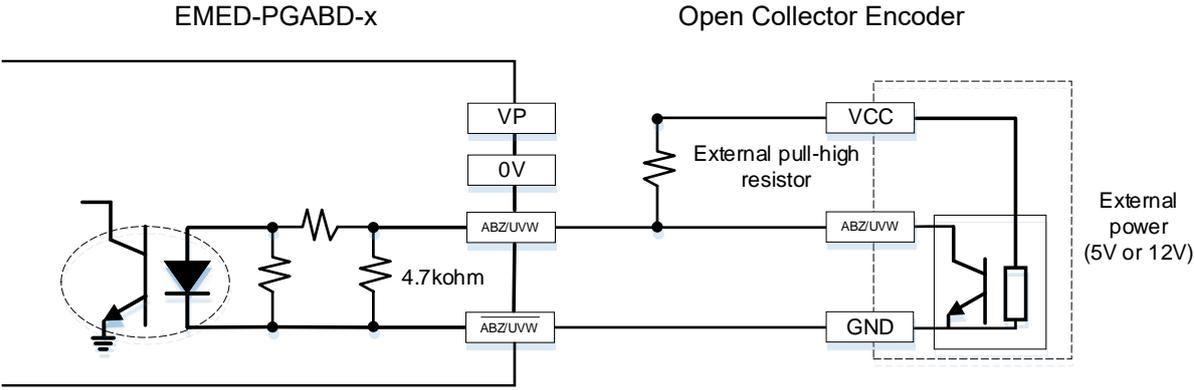

Figure 2
1. Open collector output encoder application: Use one pull-up resistor for each set of input current 5–15 mA. Refer to the table below for resistor specifications. If open collector input voltage uses 5V or 12V external power, see the PG wiring Figure 2 below.